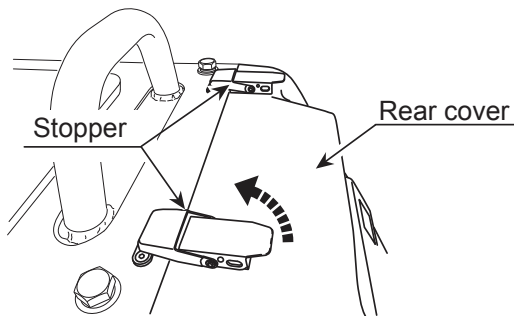

Figure 33. Opening Rear Cover.
1. Unlatch the two stoppers at the top portion of the rear cover to open the rear cover (Figure 33).